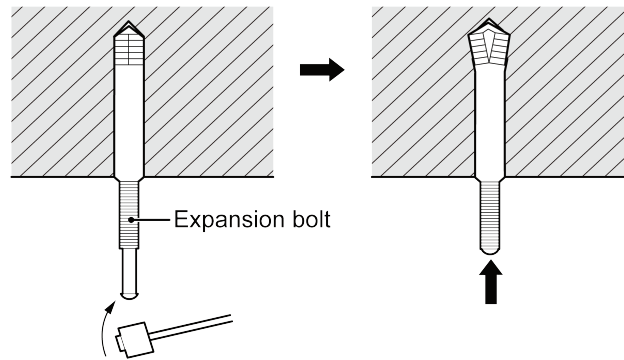

Fig.4.11
- 2) Insert M10 expansion bolt into hole, and then set the iron nail into bolt. As shown in Fig.4.11, and then remove the paper pattern.